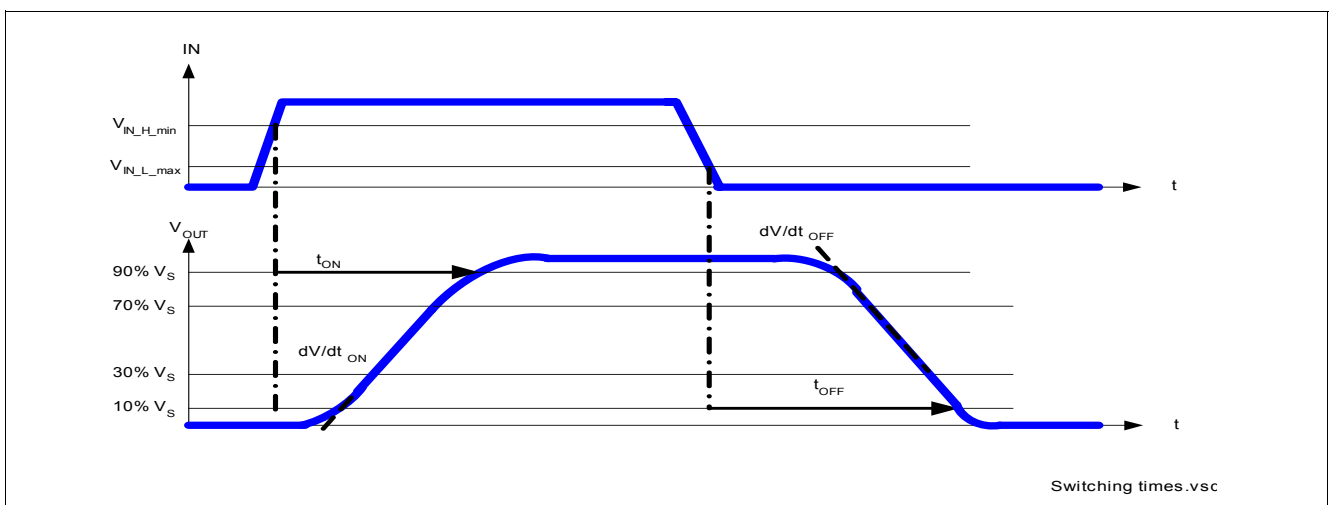

Figure 5 Turn ON/OFF (resistive) timing
**Figure 5** shows the typical timing when switching a resistive load.